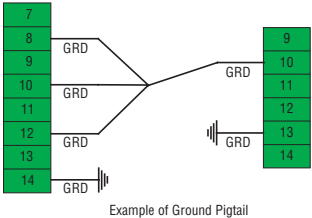

Figure 16-2
- The configuration of the terminal strips have changed. See Figure 16-2